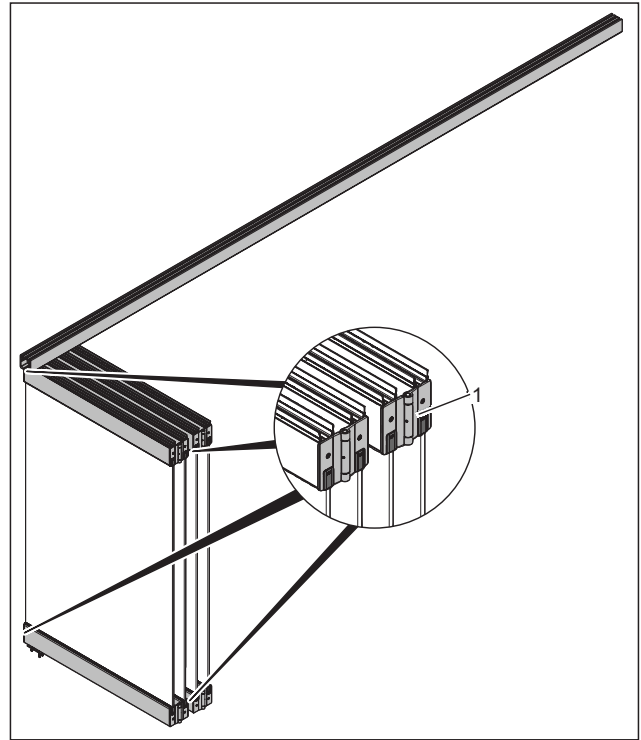

Fig. 24 Check folding sliding wall (example illustration with FSW EASY Safe)
1. Check that all hinges (Fig. 24/1) are firmly tightened and, if necessary, re-tighten or replace.